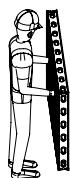

Fig. B1.11
1. Prepare DP panels for assembly. Lay out square timbers or planking as a base. The assembly area must be even! (Fig. B1.11)
1. Install the closing formwork in the same way as the primary formwork. (Fig. B1.11 – B1.14)